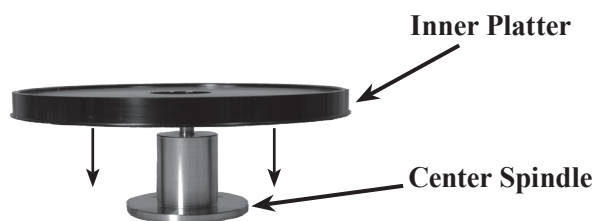

Figure 3
4. Place the bottom of the Center Spindle on the prepared flat surface. Line up the center opening of the Inner Platter with the Center Spindle and carefully lower the Inner Platter onto the Center Spindle. Refer to figures 3, 4 and 5.